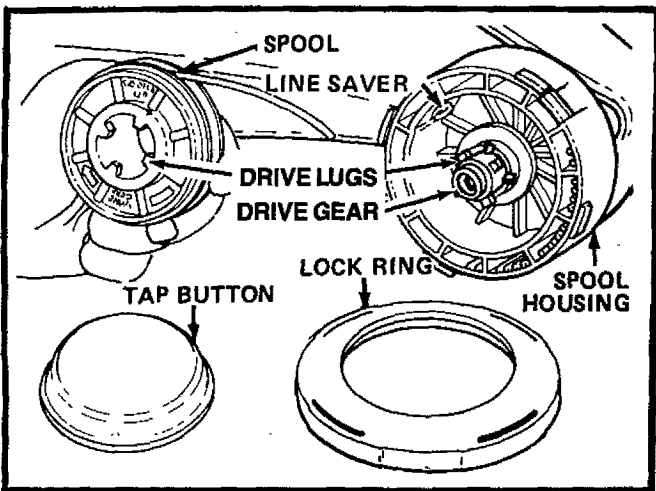

Figure 19
- Remove the lock ring, tap button, and spool. Figure 19.